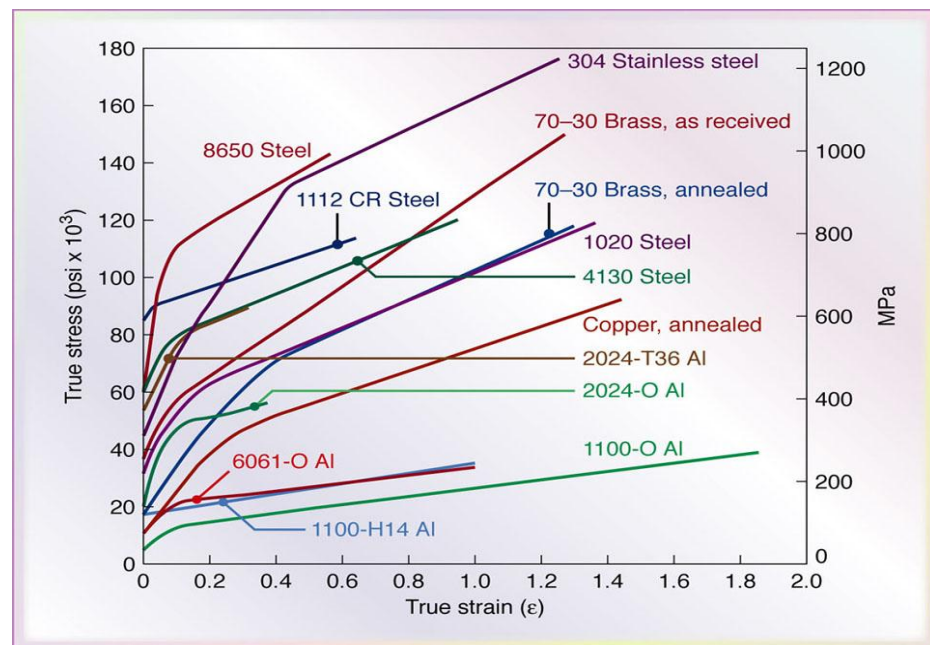

Figure Q4[c]
- Calculate the forging force at the end of the stroke. Use the Figure Q4[c] diagram to get the flow stress.